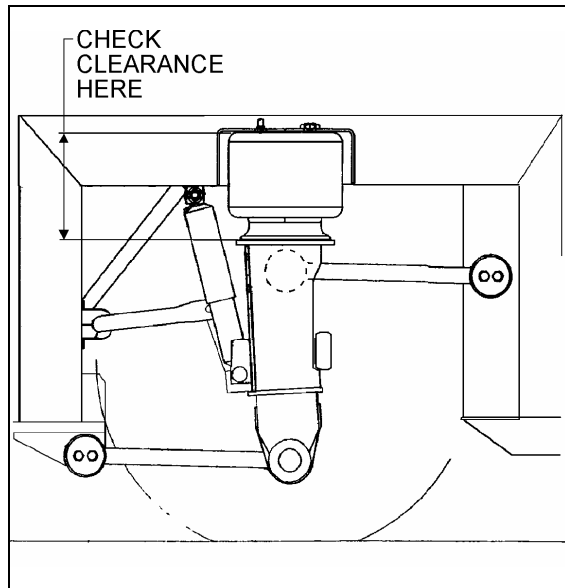

FIGURE 11: TYPICAL AIR SPRING CLEARANCE 16002
The appropriate vehicle body height is obtained by measuring the clearance of all the air springs installed on the front and drive axles. The clearance should be 12 ± 0.25 " (305 ± 6 mm), 11.7 ± 0.25 " (297 ± 6 mm) for ISS for the air springs installed on the front axle and 11.5 ± 0.25 " (292 ± 6 mm) for those installed on the drive axle. Refer to figure 11 to identify the correct location where the measure has to be taken. At this point, it should not be necessary to make an adjustment under normal service conditions. However, if an adjustment is required, change the position of the overtravel lever in relation to the overtravel control body. The lever should be moved up to raise the height of vehicle, and down to lower it. Check that main air pressure is at normal operating pressure and raise the vehicle to the specified height.
1. With the vehicle at normal operating air pressure, check the air spring clearance as illustrated in figure 11. This clearance should be 12 ± 0.25 " (305 ± 6 mm), 11.7 ± 0.25 " (297 ± 6 mm) for ISS for the front axle air springs and 11.5 ± 0.25 " (292 ± 6 mm) for those on the drive axle.
Note: The measure should be taken from under the upper air spring support on subframe to top of the lower air spring support on axle (refer to fig. 11 for more details). If adjustment is required, begin with the drive axle.